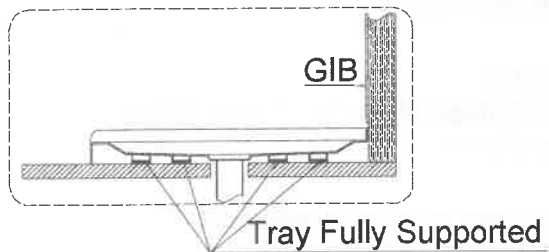
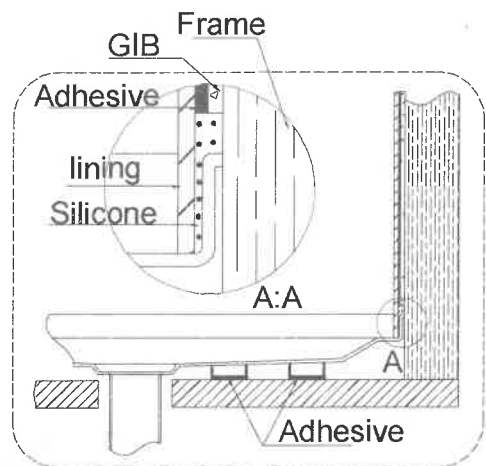

Fig2
Fig7
The base of the tray must be fully supported onto the floor through all PVC feet and adhesive used to glue the tray support feet to the floor. Fig2.
If the wall lining or tiles can't be correctly fitted down to the base of the up stand, Fig2 due to a bow in the wall or a thin fibrous backing board being used the tray may need slightly checking into the wall studs .Example Fig7 A;A
7. Make a silicon bead as in Fig7 all the way around the tray up stand to give a water tight seal between the tray up stand and the lining when fitted into place. Make sure the silicon is generous were the GIB meets the up stand.